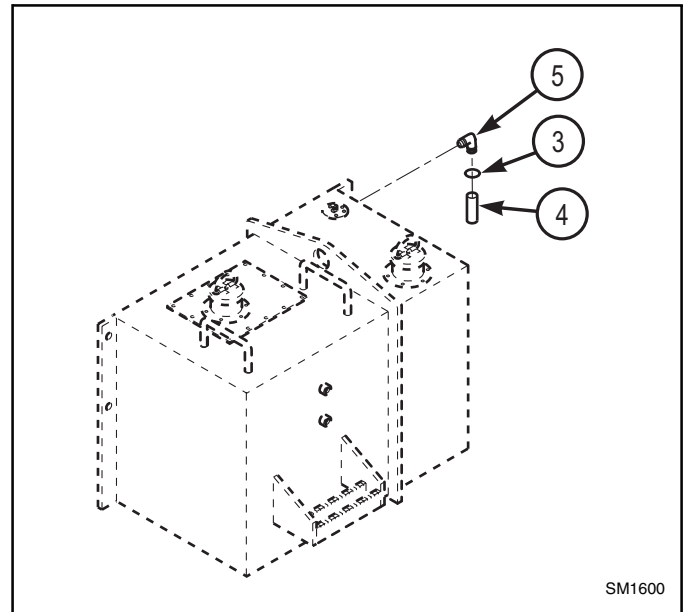

Figure 9
- Remove and discard one hose clamp (3) and fuel drain line (4) from vehicle. (Figure 9).
- Remove and discard elbow (5) from vehicle fuel tank. (Figure 9).